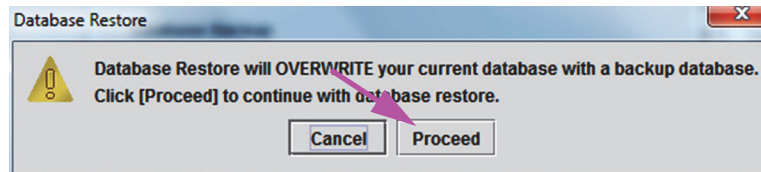

Figure 5-71. Database Restore Confirmation Dialog Box
8. The Database Restore confirmation dialog box appears. See Figure 5-71.